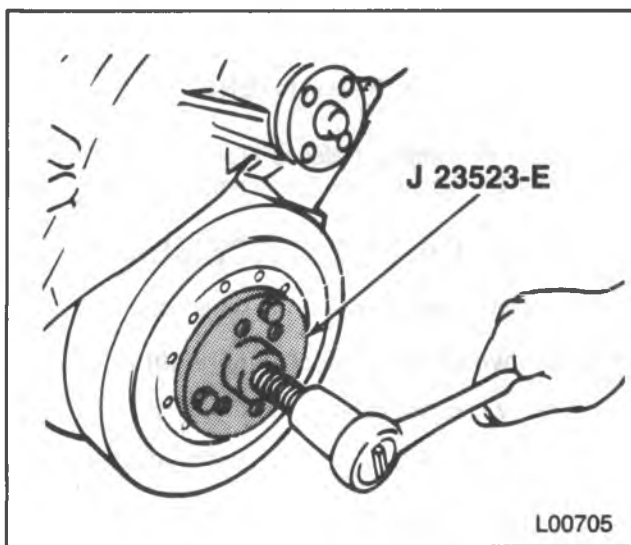

Figure 16 — Removing the Torsional Damper
Remove or Disconnect (Figure 16)
- Torsional damper. Use J 23523-E (figure 16).